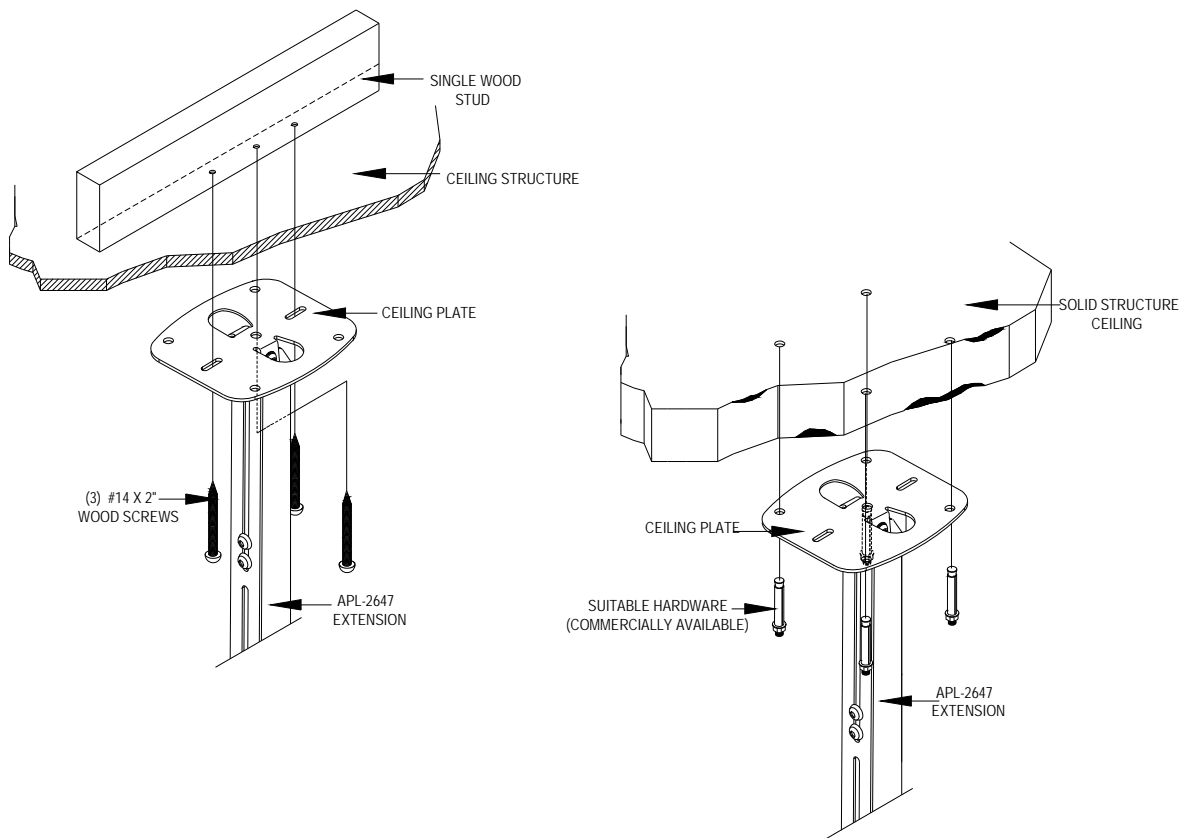
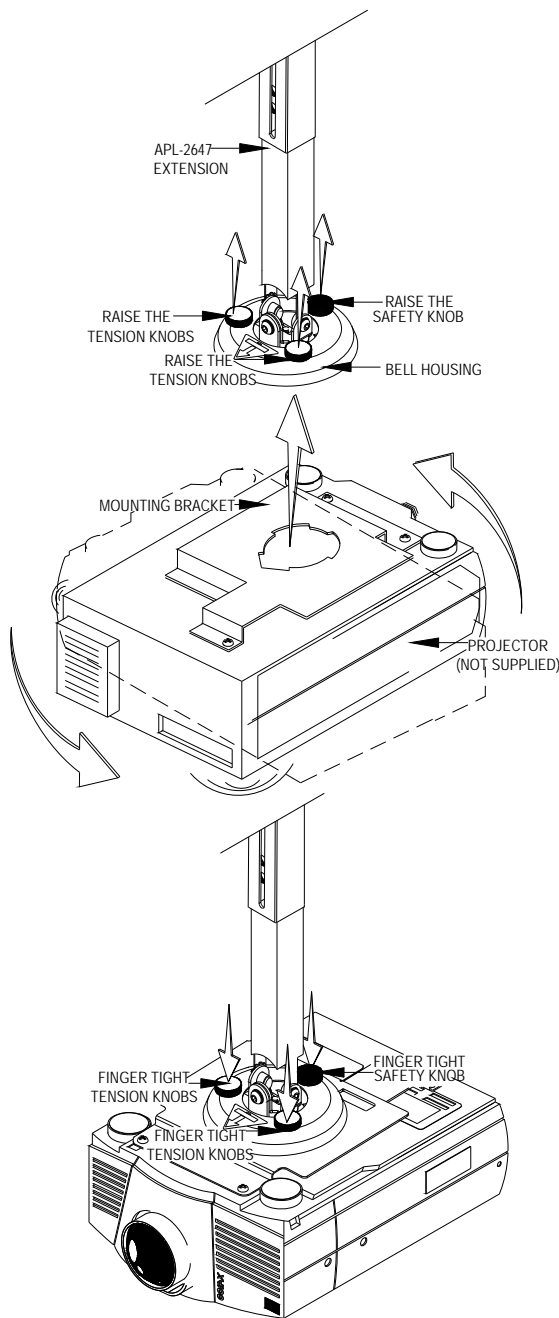

Figure 4. Stud Installation
Figure 5. Bracket Installation
2. Depending on the installation requirements, suitable hardware must be used (Figure 5 and Figure 4).
3. Once the bracket is inserted, rotate the projector 180° and align the front arrow shaped slot from the mounting bracket to the safety screw (Figure 5).